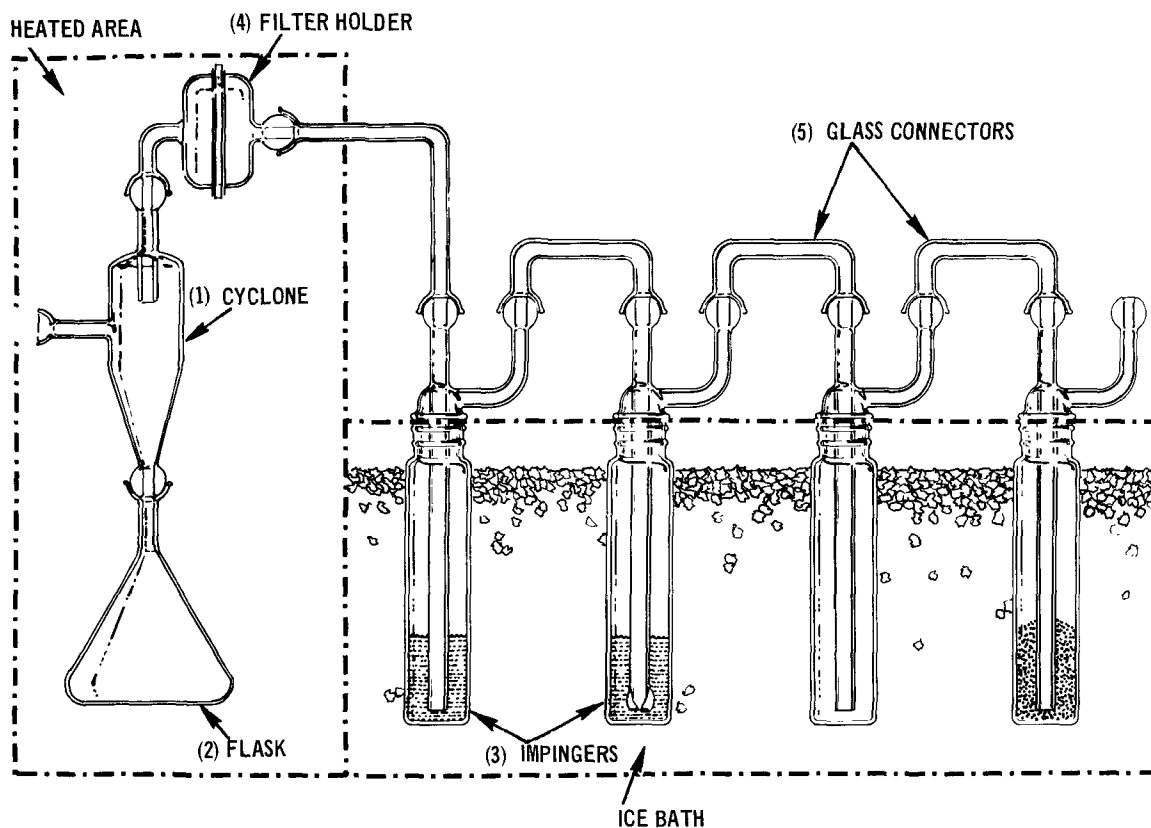
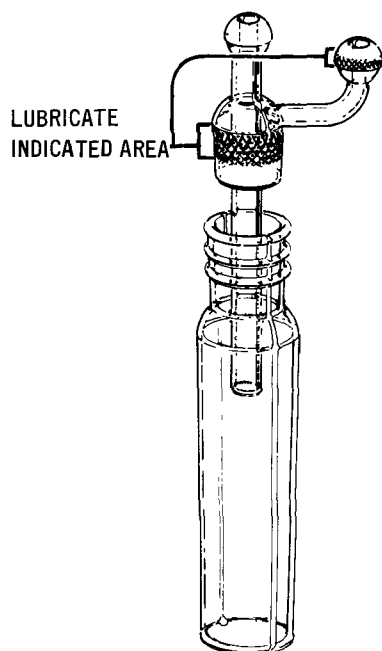

Figure 14. Sample box glassware assembly.
Figure 15. Impinger.
Wipe the grease from the joints of the cyclone (1) and flask (2), filter holder (4), glass connectors (5), and impingers (3), shown in Figure 14. Wash with glass cleaning detergent. For hard-to-clean parts use dichromate sulfuric acid cleaning solution. Rinse with distilled, deionized water, and then acetone; air dry. Reassemble the impinger portions using a thin coat of acetone-insoluble silicone stopcock grease on the upper half of the taper joints (Figure 15). Cover all exposed openings to avoid contamination.